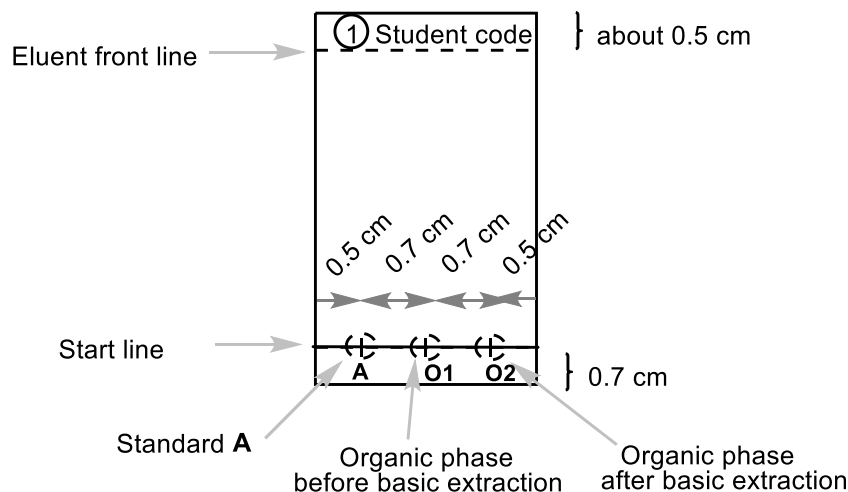

Figure 2. Instructions for the TLC plate preparation.
- Check your TLC plate before use. Unused damaged plates will be replaced upon request without penalty. Use a pencil to draw the start line and mark the positions for spotting the samples. Write number **1** in a circle and your student code at the top of the TLC plate as shown in Figure 2. Dissolve the given sample of 2-acetonaphthone in a vial (**Standard A**) in about 2 cm³ of ethanol (about 1 full glass Pasteur pipette). Mark three spot positions and label them **A**, **O1**, and **O2**. Spot 1 μl (one mark of the 5 μl capillary spotter) of standard **A** and the combined organic phase from step II.3 (**O1**). You will add spot **O2** later.